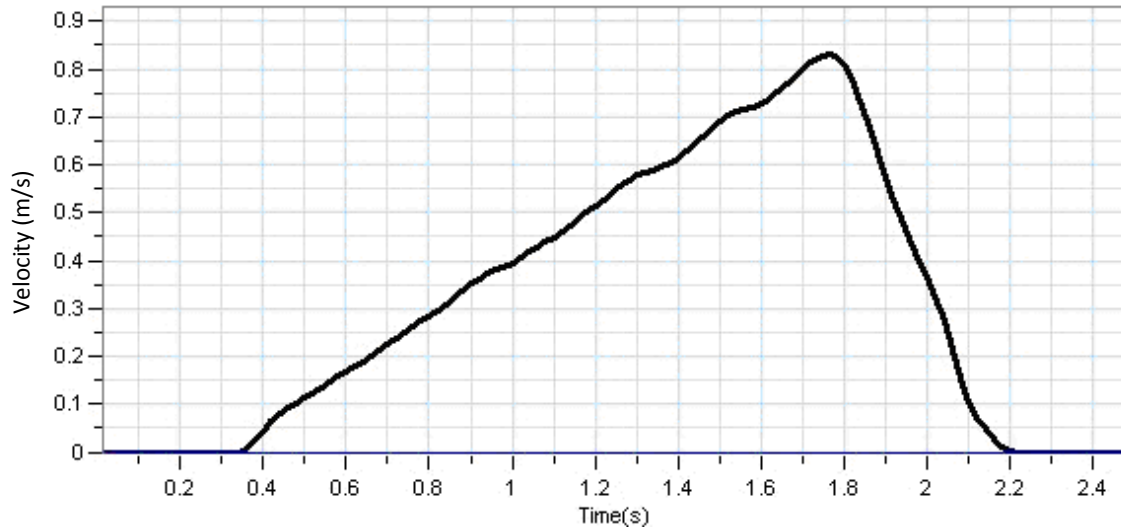

Figure 2
1. From the graph (Figure 2) you can see that the velocity increases linearly over time. That means that the acceleration is constant, as the acceleration is the rate of change in velocity.